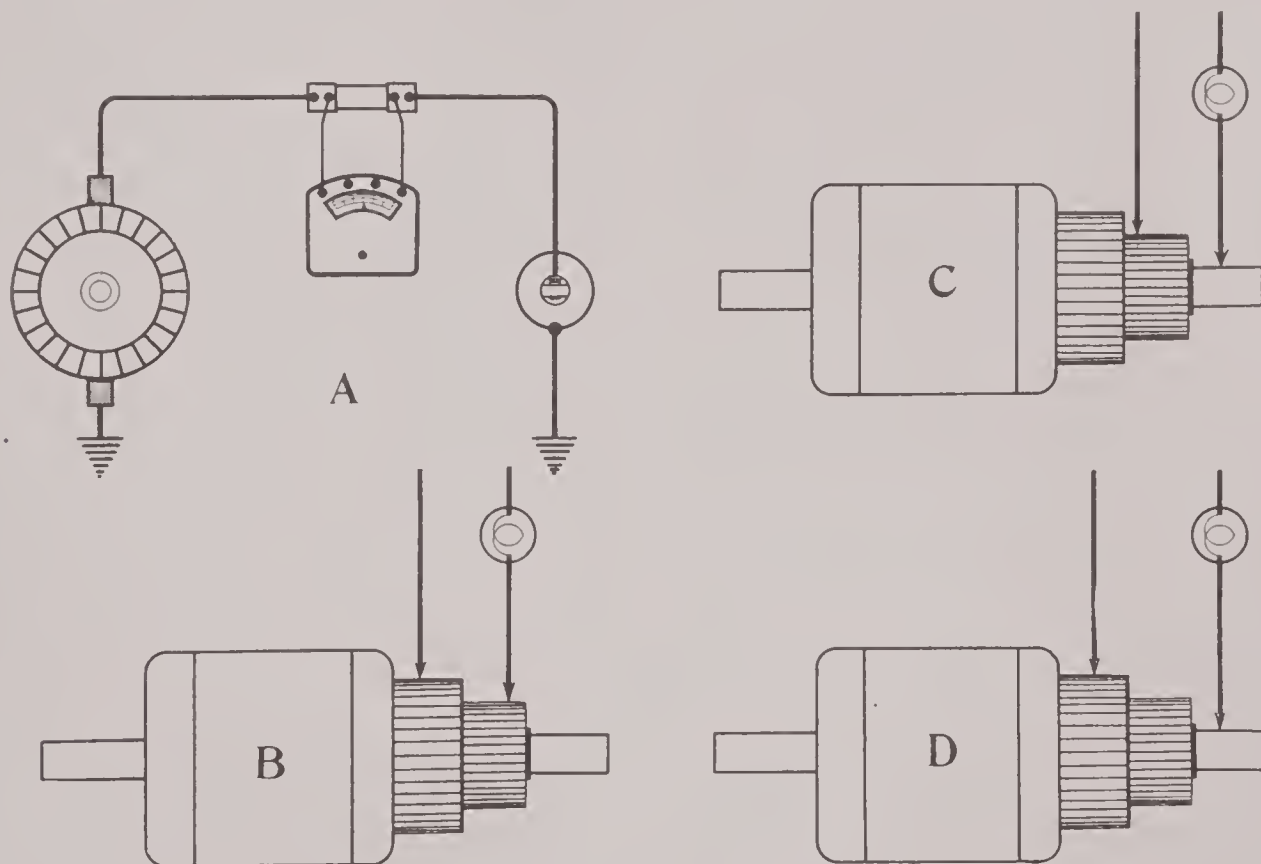

FIG. 319
Fig. 319 illustrates a few common tests made on armatures. Tests (B), (C), and (D) apply particularly to Delco motor-generator arma- tures which have two sets of armature wind- ings and two commutators, although tests (C) and (D) apply equally well on other armatures. The test shown at (A) is to determine in a rough way whether an armature is shorted or open circuited, without removing the dynamo from the car. See that the commutator is